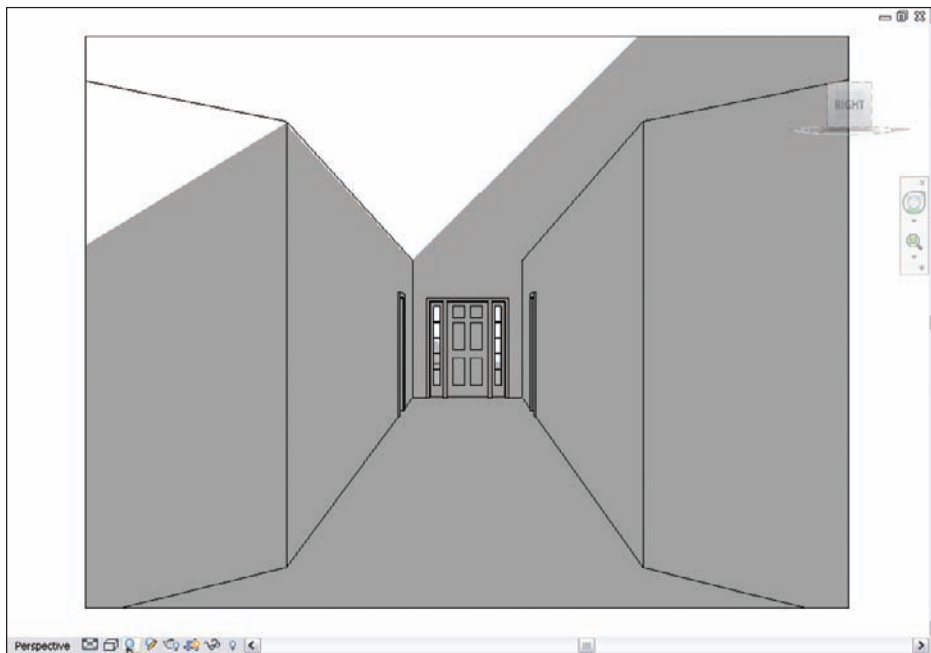

FIGURE 3.69 The perspective view down the east wing corridor
4. The second point you pick will be how far the camera “reaches” into the building. Pick a point past the corridor doors, as shown in Figure 3.69.
7. The next button to the right is the Shadows button. For a perspective view, turning the shadows on is okay for a relatively small view. In this example, go ahead and turn them on (see Figure 3.69).